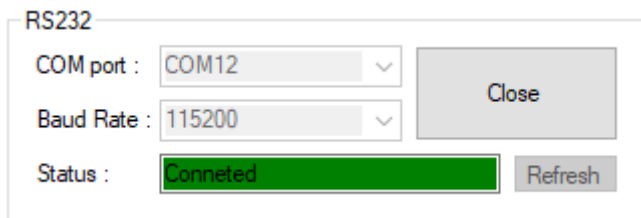
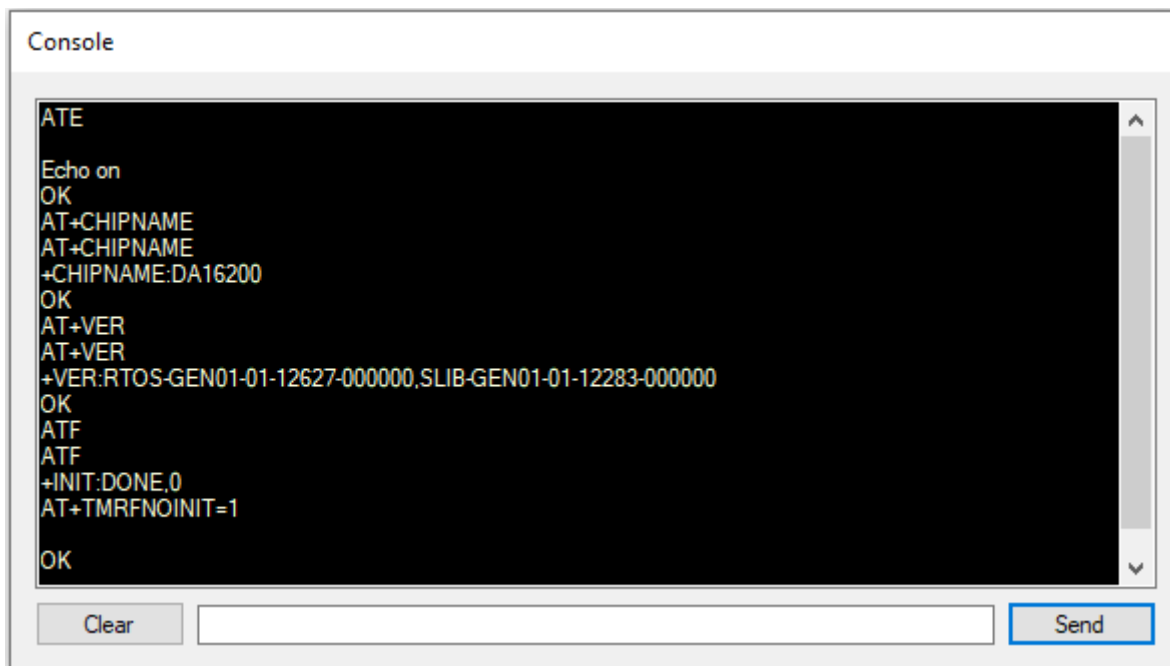

Figure 5: RS232 Setup - Connected
Figure 6: Debug Console - Connected
2. Select a COM port and click the **OPEN** button and wait for a few seconds. See Figure 5 and Figure 6.